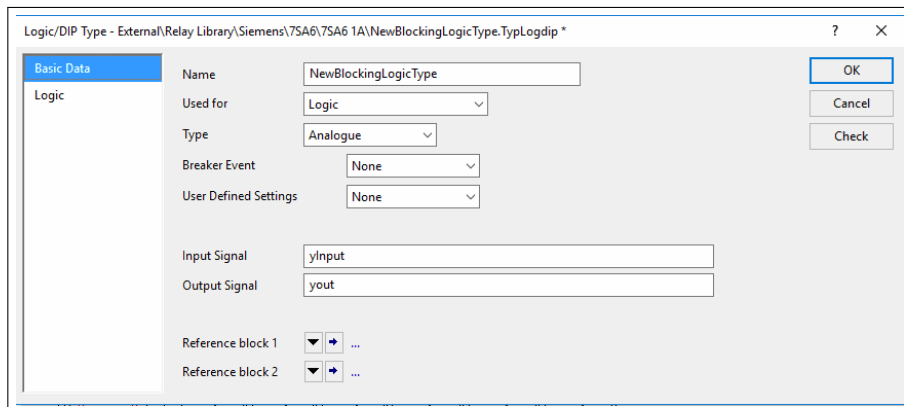

Figure 6.13: New Logic Type
- Select Analogue as *Type* and None as *Breaker Event*. Set *yInput* and *yout* signals as shown in figure 6.13.